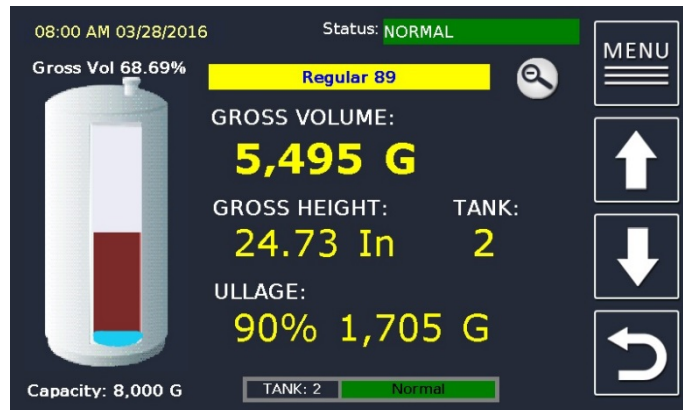

Figure 2.3
**Zoomed View:** If you press  the controller will display Gross Volume and Percentage, Gross Height, and Ullage. The ullage percentage can be changed between 80-100% in the Setup Menu. (Figure 2.3)